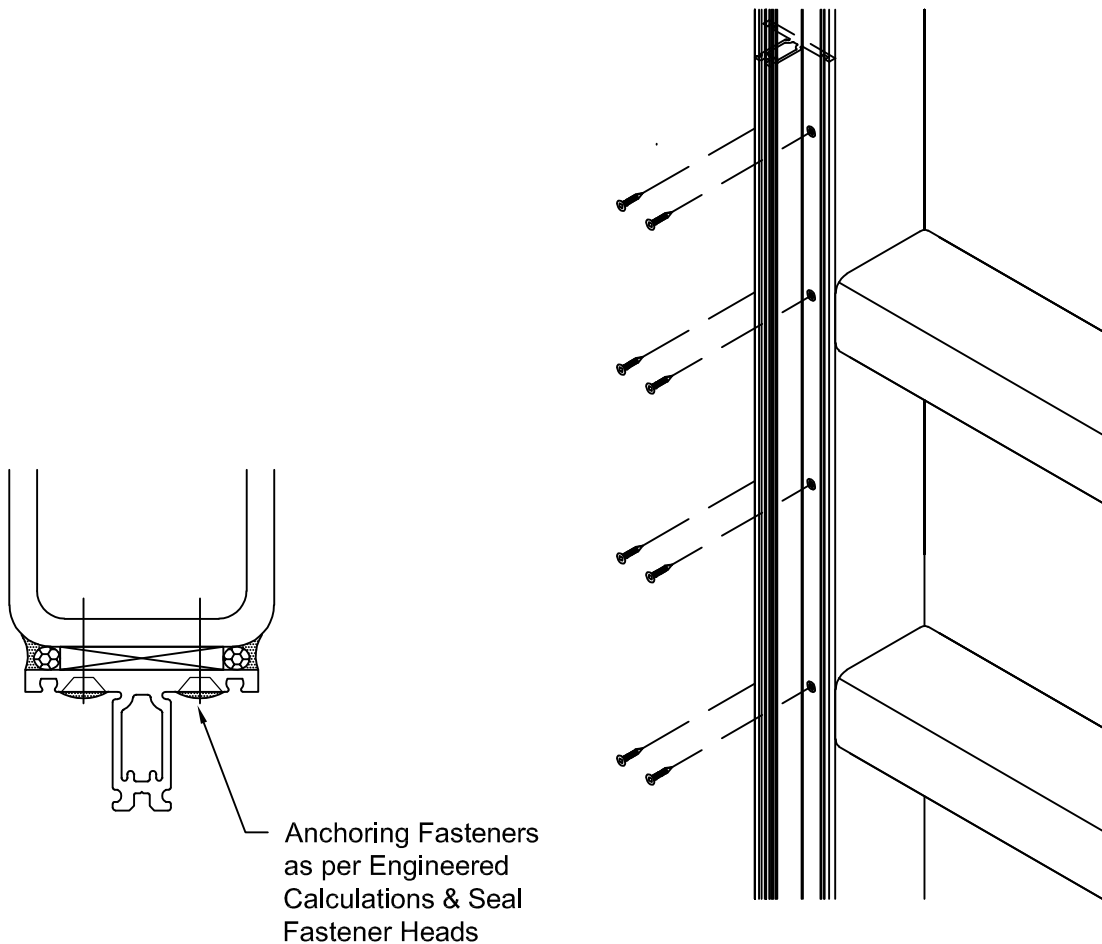

Figure 5
- 2.1.1 Anchor the first vertical mullion on the substrate using calculated engineered anchoring fasteners based on approved shop drawings. See FIGURE 5.